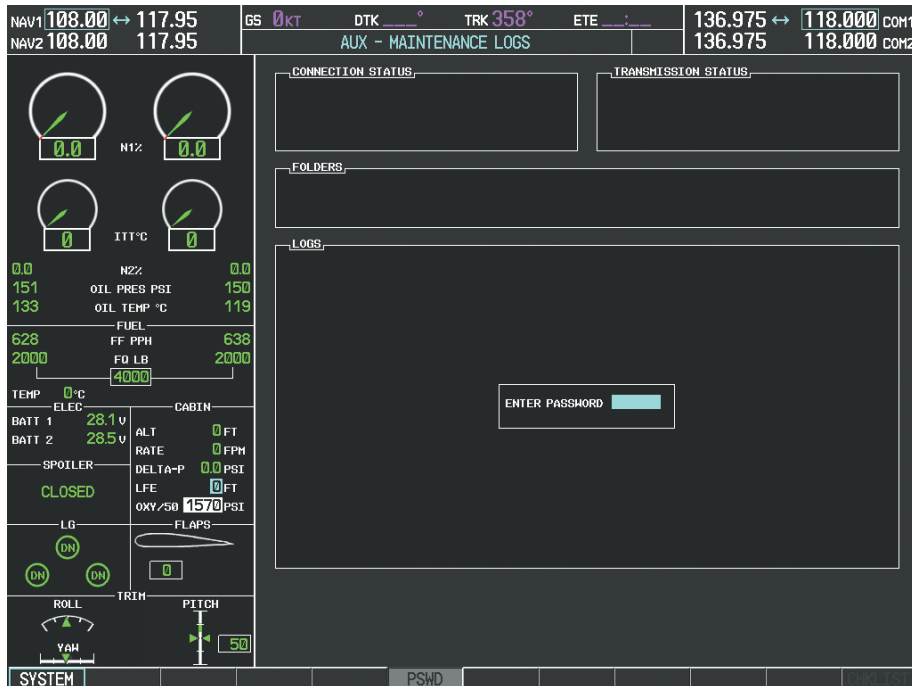

Figure 8-114 Maintenance Logs Page
- 3) Select the **PSWD** Key to enter the password, as shown in Figure 8-114.